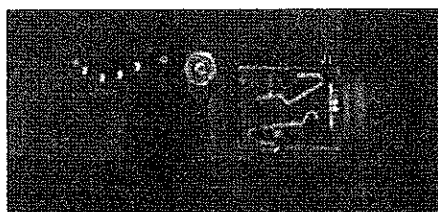
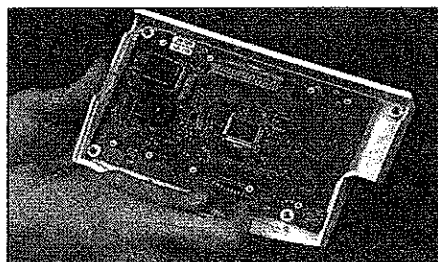

Figure 26
Figure 27
1. Solder the replacement temperature jack as supplied by Bard. Be sure to position the connector edge with the edge of the PCB and within the silk-screen lines on the display PCB (see Figure 26).
4. Install the display PCB/LCD assembly to the bezel top assuring alignment of temperature jack, by installing the four (4) 4-40x1/4" Phillips pan-head screws.
5. Reconnect the membrane switch mylar connector to the display PCB (see Figure 27).